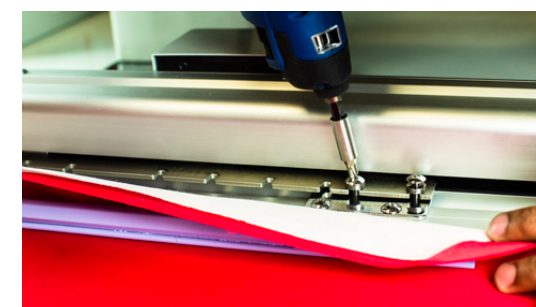

Figure 60
2. Attach the sash frame to the last two slots on the pantograph rail. Use a Phillips screwdriver to secure the screw. **See Figure 60.**